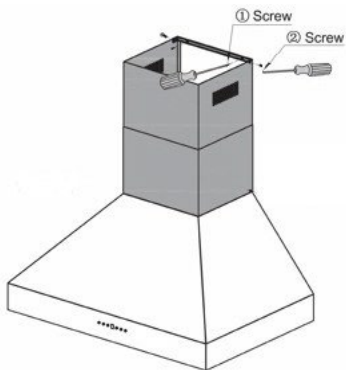

Figure 9.
10. Install the two-part chimneys on top of the hood (2.1 & 2.2). Slide the inside section (2.1) up until the vertical vent slots are visible, attach top portion to chimney mounting bracket with screws (10.b). Shown to the right & Figure 9.